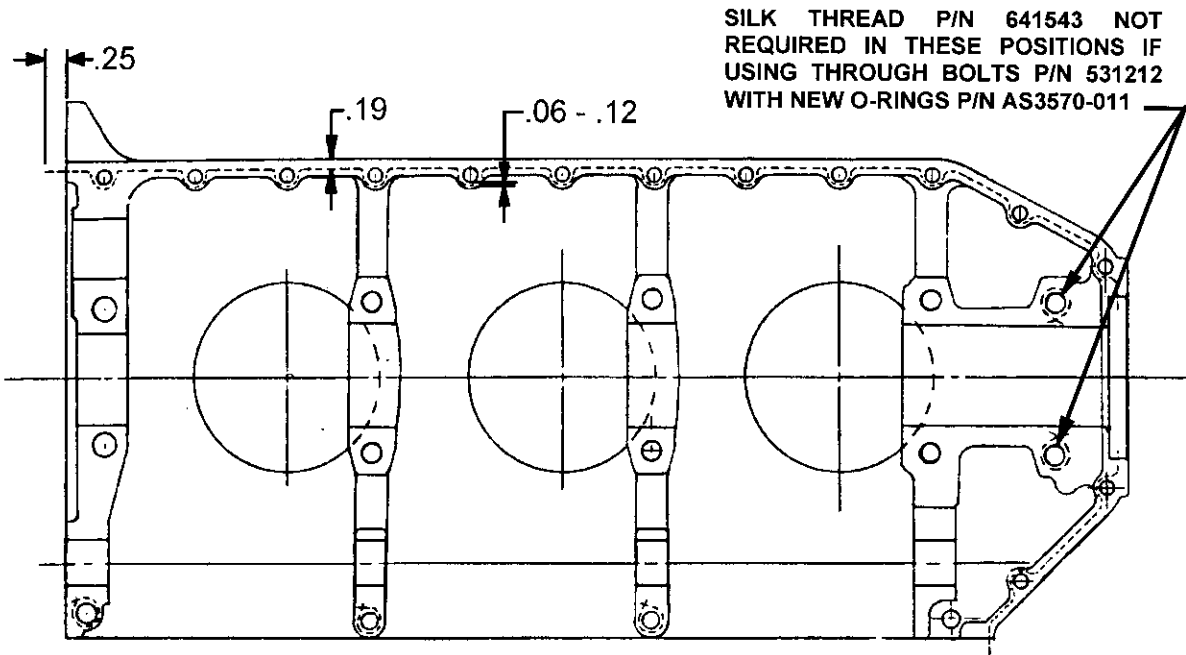

FIGURE 2. 0300 CRANKCASE THREADING DIAGRAM
4. Apply and position grade D silk thread P/N 641543 on 2-4-6 case half as specified in Figure 2. Be sure free ends of thread are covered by gaskets except at the nose oil seal.